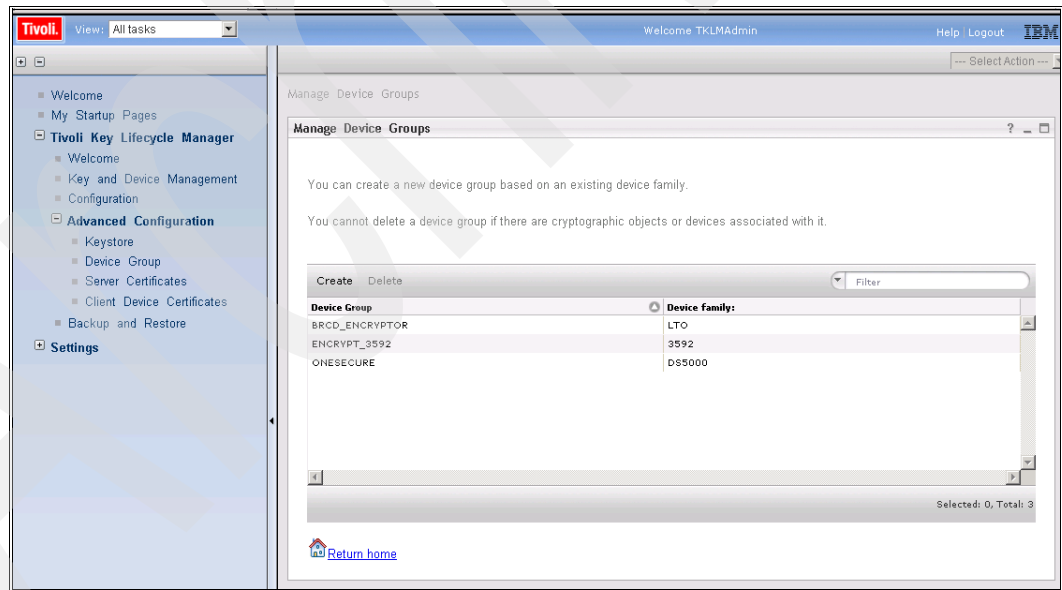

Figure 9-31 Successful device group deletion
5. When the device group is successfully deleted, it is removed from the device groups list as shown in Figure 9-31.